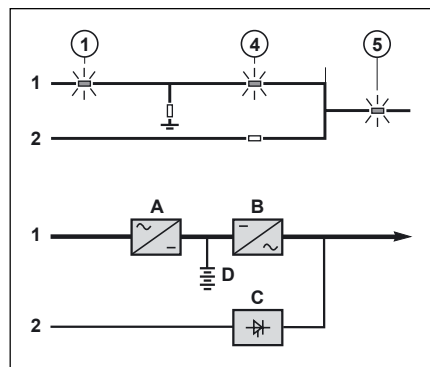
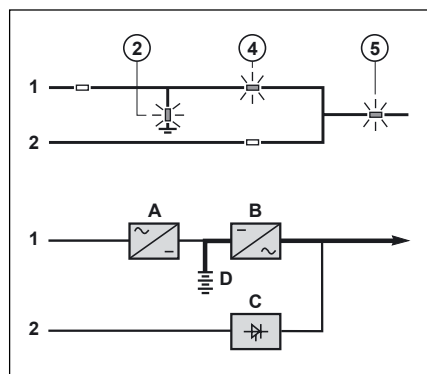

Fig. 7
Fig. 8
Normal AC source power is available (see figure 7).
See figure 8.
From then on, the minimum operating time on the inverter (B) is 2 minutes even if the bypass AC source returns to within specified tolerances. Refer to figure 7 in the general appendix if the normal AC source is present, and to figure 8 if it is absent. After this 2 minute period, the load is immediately transferred to the bypass AC source when the latter returns to within specified tolerances.